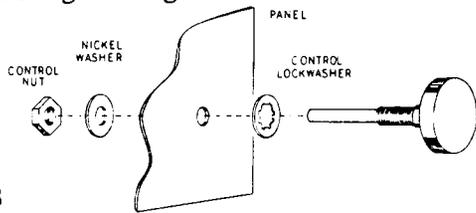

Figure 3
- ( ) Mount the differential tuning capacitor to the VFO sub-chassis as shown in Figure 2. Place a 3/8 lockwasher on the back of the chassis and a 3/8 flat washer and nut on the front. See Figure 3. Align the capacitor so the stator plates appear as shown in Figure 2 before tightening.